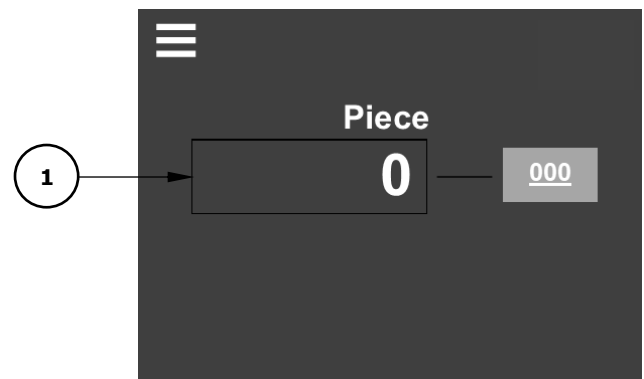

Figure 8.4.1
- Select field **1** by touching it. The quantity screen appears. See Figure 8.4.1.